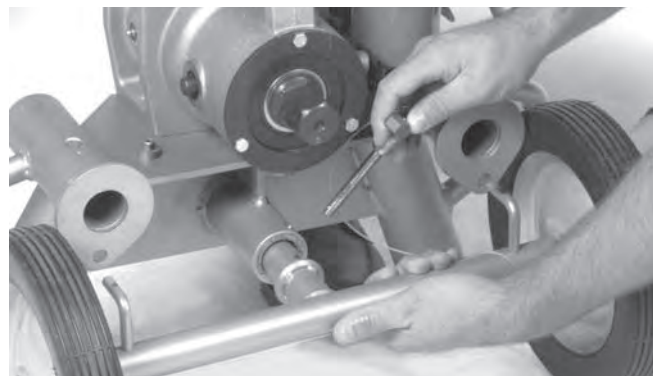

Figure 24 – Mounting the Groover to the No. 32 Transport Cart
1. To attach the transport cart to the groover, insert the cart into the socket located at the bottom of the base (*Figure 24*). Make sure the two alignment lugs on the cart are also inserted in the base.